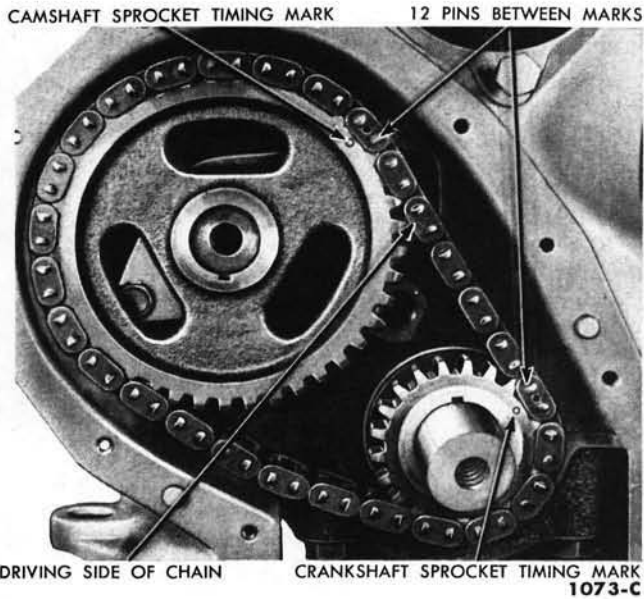

FIG. 25—Aligning Timing Marks
2. Remove the crankshaft front oil slinger. Crank the engine until the timing marks are positioned as shown in Fig. 25. Remove the camshaft sprocket retaining bolt and washer.
2. Position the sprockets and timing chain on the camshaft and crankshaft. Be sure the timing marks on the sprockets and chain are positioned as shown in Fig. 25. There are 12 timing chain link pins between the timing marks on the sprockets.
4. Crank the engine until the timing marks on the sprocket and chains are positioned as shown in Fig. 25. Scribe a line on the distributor housing and cylinder block to mark the position of the rotor and distributor housing for installation, then remove the distributor.